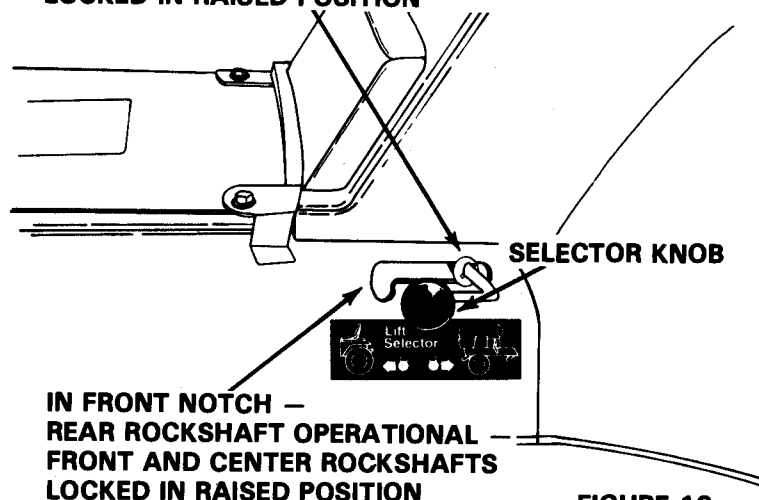

FIGURE 19
13. On hydraulic lift equipped tractors, the selector knob must be in the rear position to make the front rockshaft operational. See Figure 19.